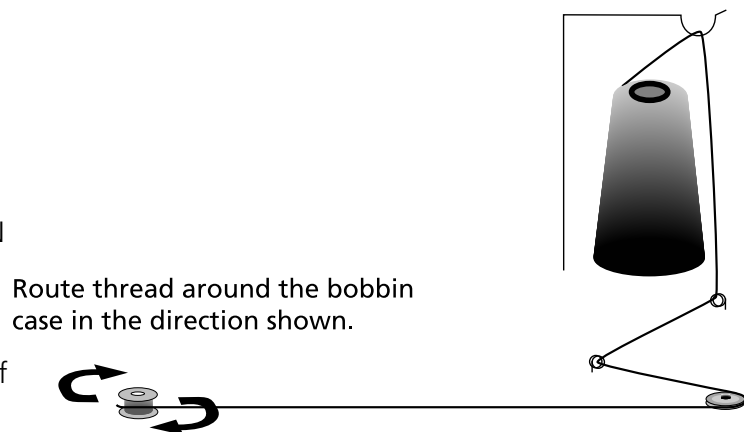

Figure 3-25
1. Thread the winder as shown in Figure 3-25. The arrows on the base plate indicate the direction of the thread path.